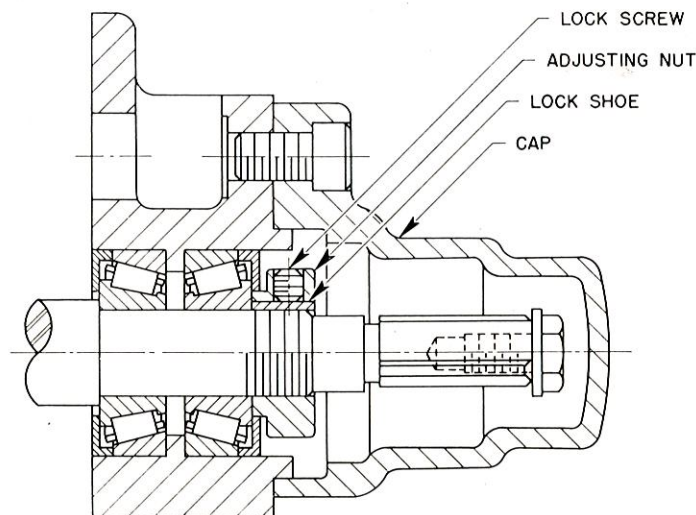

Figure 32
2. Remove the cap (Figure 32) at the right-hand end of the table.
1. Remove the table as follows: Remove cap (Figure 32) from right end of table, and remove screw from end of leadscrew. Loosen lock screw, tap to free the lock shoe under it and remove bearing adjusting nut (Figure 32). Remove screws which hold apron to table, tap apron to free sealed joint, and remove the apron with its two double diameter pins.